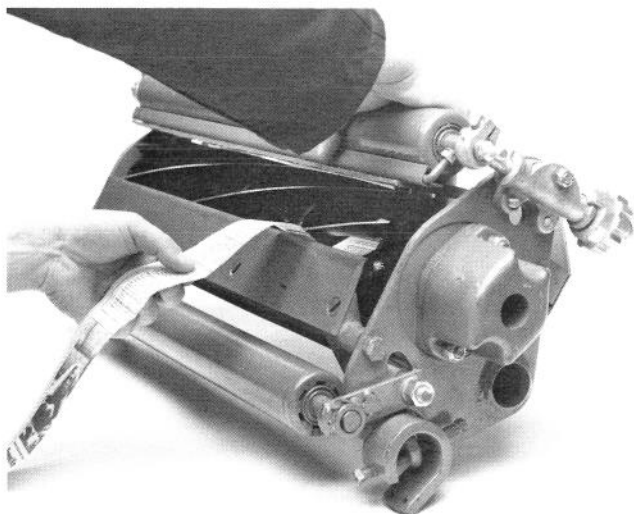

Figure 3
- After the adjustment is accomplished, check to see if reel can pinch paper when inserted from the front and cut paper when inserted at a right angle (Fig. 3). It should be possible to cut paper with minimum contact between the bedknife and the reel blades. Should excessive reel drag be evident (more than 7 inch pounds [0.8 N·m]) it will be necessary to either back lap or regrind the cutting unit to achieve the sharp edges needed for precision cutting (see Toro reel sharpening manual, Form No. 80-300PT).